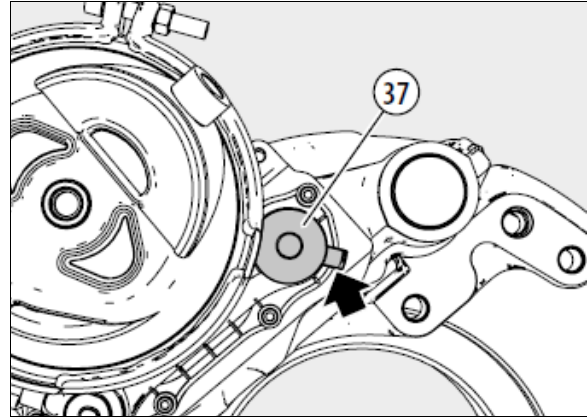

**FIGURE 41: APPLY THE BRAKE 5-10 TIMES, SPANNER TURNS CLOCKWISE**
15. As a visual aid, position a ring spanner or socket onto the adjuster (including Adapter (61)) as shown. Apply the brakes 5 to 10 times, the spanner or socket should turn clockwise (viewed from actuator side) in small increments if the adapter is functioning correctly (see Figure 41 and note below).